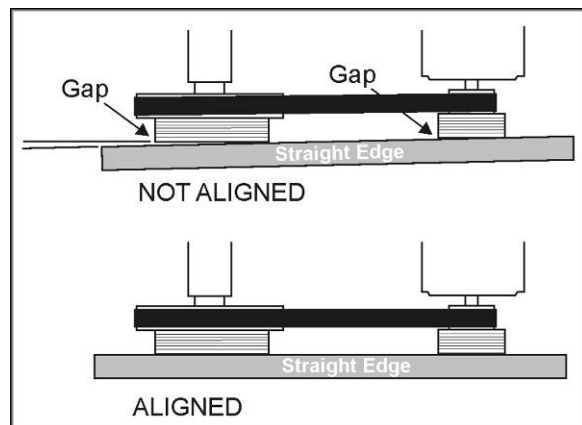

Figure 26
3. Confirm the alignment of the drive belt by placing a straight edge against the faces of both pulleys, as shown in Figure 26. If the straight edge lies flush against both pulleys, then the pulleys and belt are aligned.